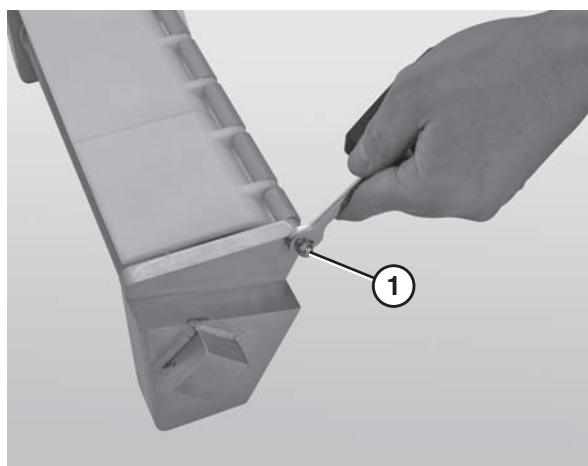

Figure 72
4. Use a 10 mm wrench to remove one of the acorn nuts (**Figure 72, item 1**) from the nose bar shaft.